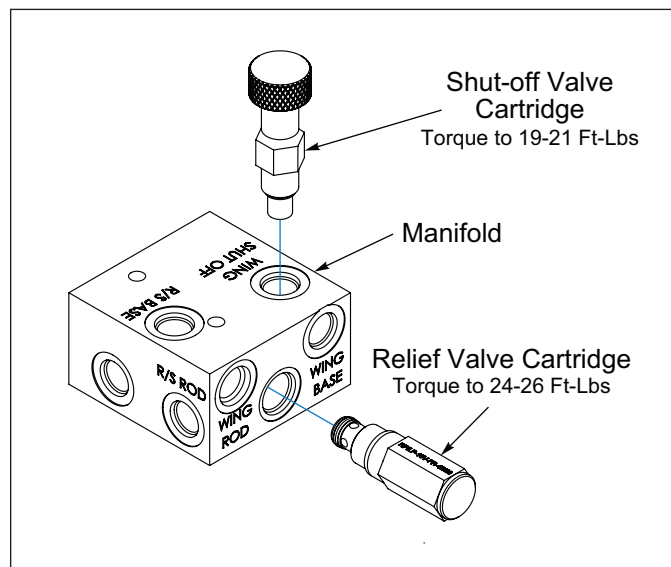

Figure 2-12: Manifold Valve Assembly
4. Lubricate Relief Valve Cartridge and Shut-off Valve Cartridge O-Rings. Install the cartridges into the Manifold torquing the Relief Valve Cartridge to 24-26 Ft-Lbs and the Shut-off Valve Cartridge to 19-21 Ft-Lbs. **See Figure 2-12.**